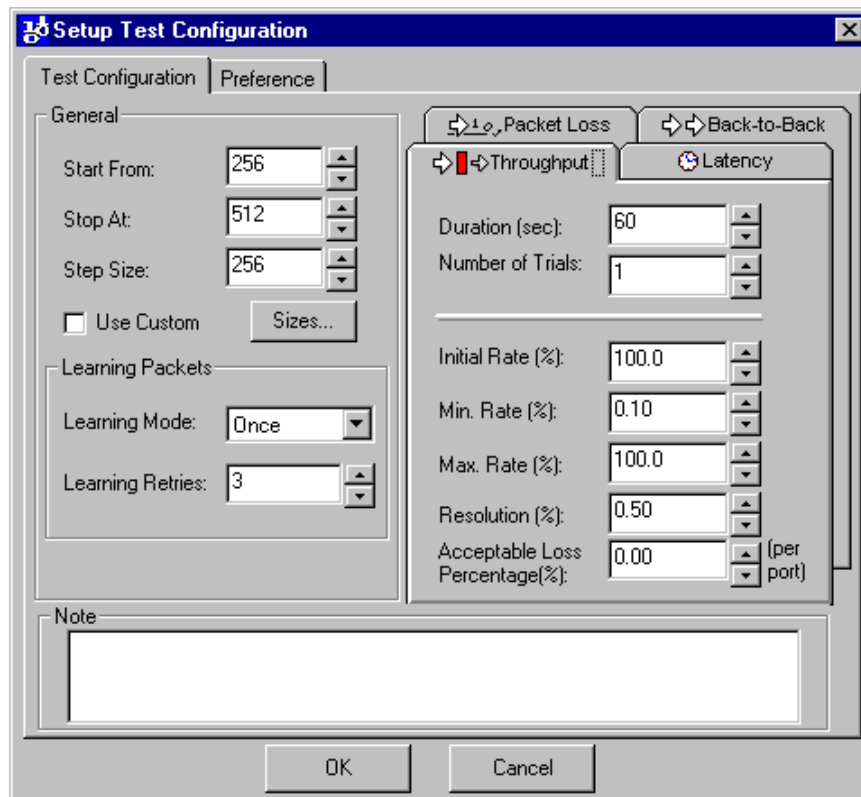

Figure 5-3. Test Configuration Tab with Test Options
- 2 Use the **Test Configuration** tab *Figure 5-3*) to set options for tests.